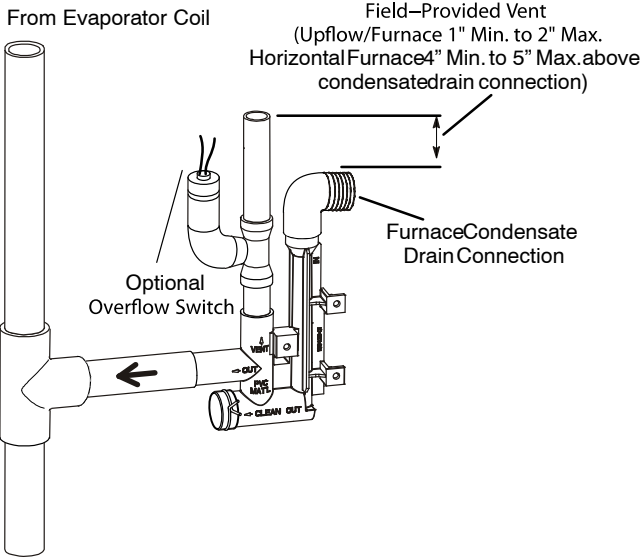

FIGURE 56
- 5 - Figures 54 and 55 show the furnace and evaporator coil using a separate drain. If necessary the condensate line from the furnace and evaporator coil can drain together. See figures 56, 57 and 58.